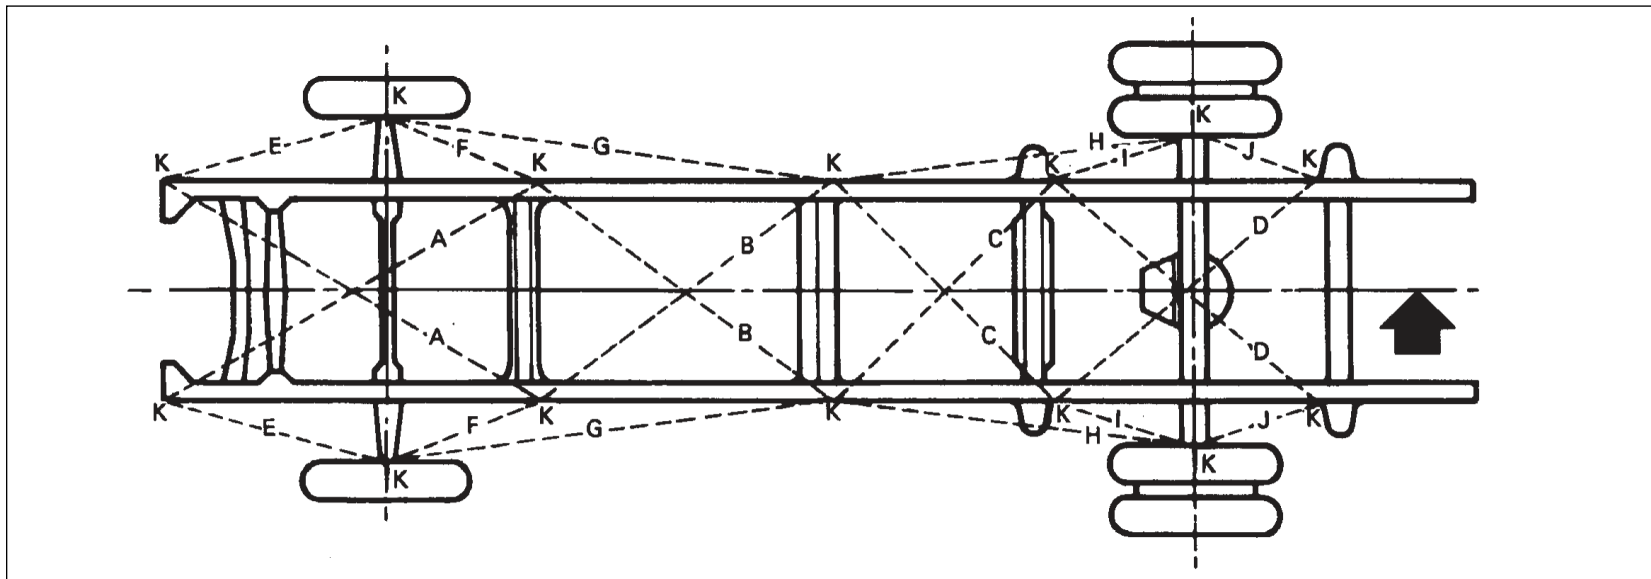

Figure 1.2 Centerline of Chassis
- 2) Tack or tape pieces of paper to the floor directly under each point of measurement on the chassis as indicated by the letter "K" in Figure 1.2.